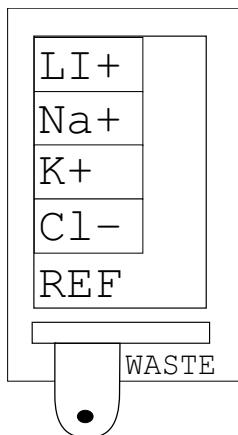

Figure 93 Order for positioning the different electrodes
7. To put the electrodes back in position, press the yellow button down and first insert the reference electrode and then the other electrodes, in the order shown in Figure 93.